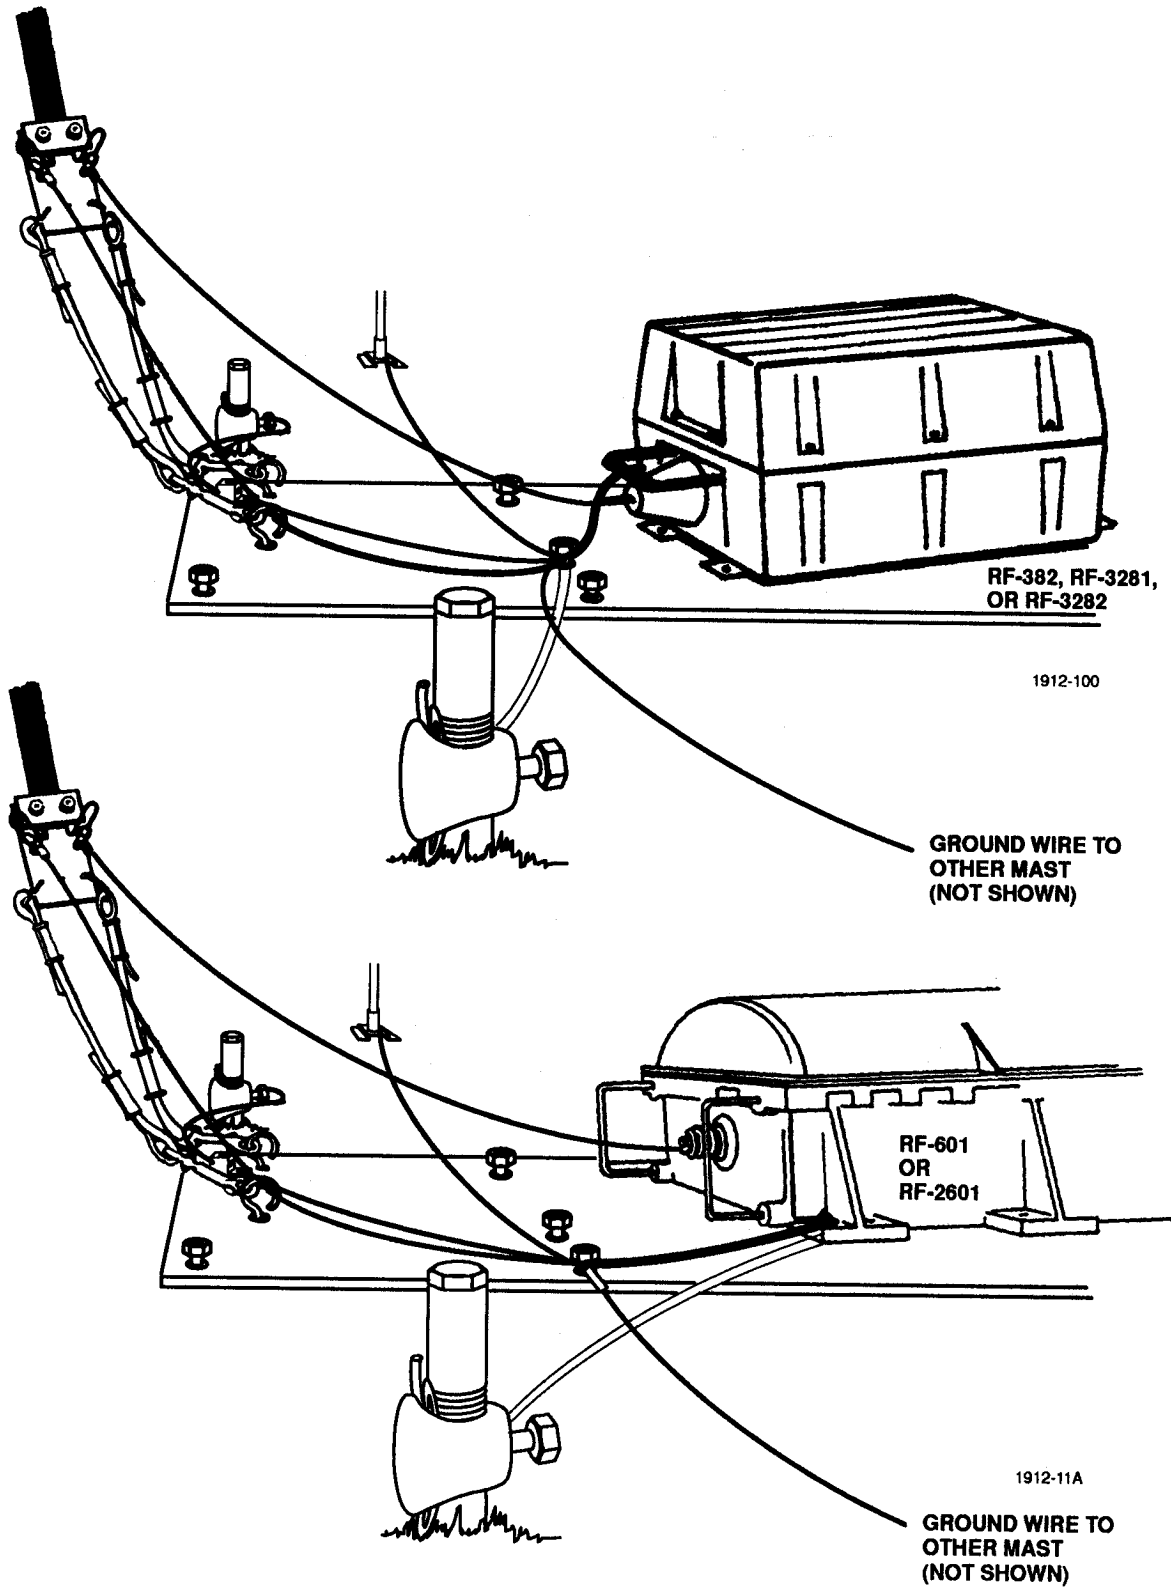
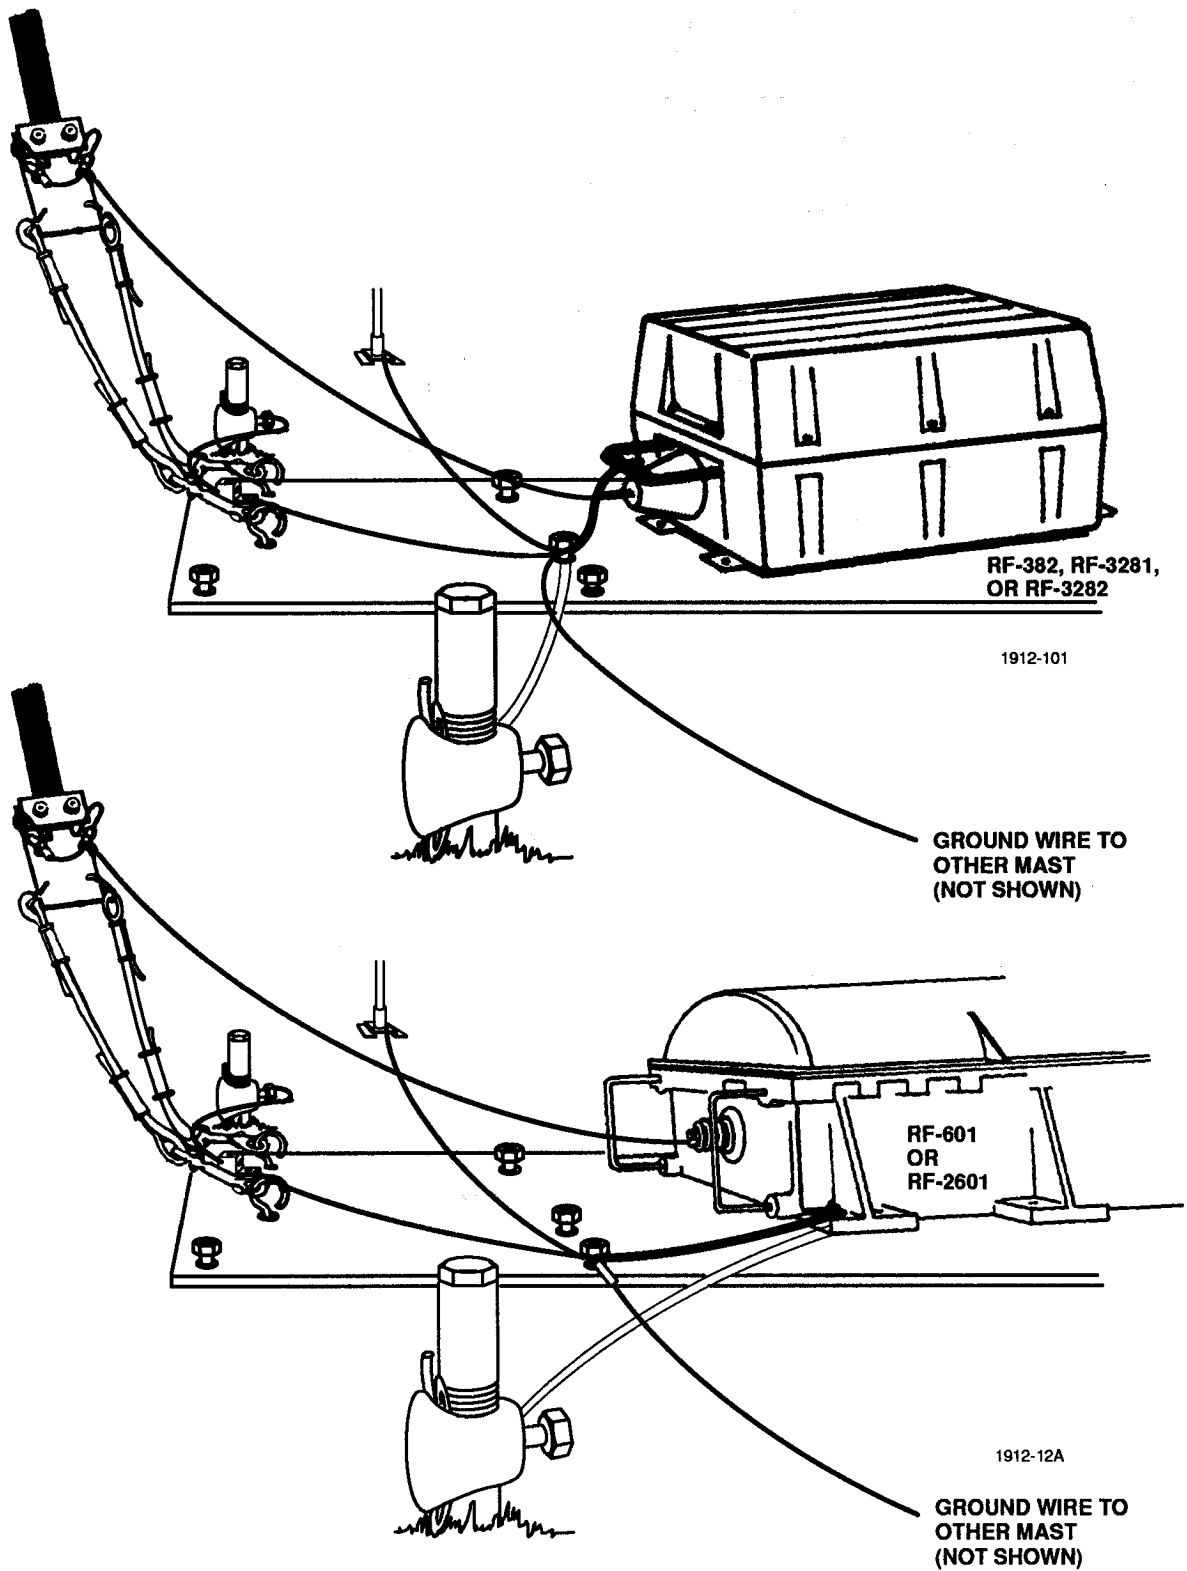

Figure 2-11. High-Angle Dipole Connections
Figure 2-12. Top-Loaded Vertical Mode Connections
- r. Mount antenna coupler on coupler baseplate using hardware provided. The terminal on the antenna coupler should face the two eyebolts on the coupler baseplate. Ensure that the antenna is correctly oriented to the baseplate. Correct orientation of the antenna to the baseplate is determined according to which antenna coupler is used. See figures 2-11 and 2-12.
The antenna may be connected in either of two ways: short-to-medium range skywave propagation (see figure 2-11), or short-range groundwave or long-range skywave communications (see figure 2-12).
For short-range groundwave or long-range skywave communications, the RF-1912 should be connected as a top-loaded vertical antenna. This hookup is advantageous for short-range communications with mobile stations and communications above 500 miles (804.7 km). A good earth ground is essential. See figure 2-12.
- a. Drive ground rod by coupler baseplate. Drive the two sectional ground rods into the earth, close to the coupler baseplate. Be careful not to strike the coupler while driving ground rods. It is preferable to use both ground rods with a coupling attached in the middle for an effective depth of about 11 feet (3.4m). If the earth is too rocky to drive both rods in series, it is acceptable to drive the rods in separately. Drive them into the ground at opposite corners of the coupler baseplate, about 5 feet (1.52m) away from each other. When driving the rods, use coupling and driving stud provided to prevent damaging the rods. See figure 2-11.